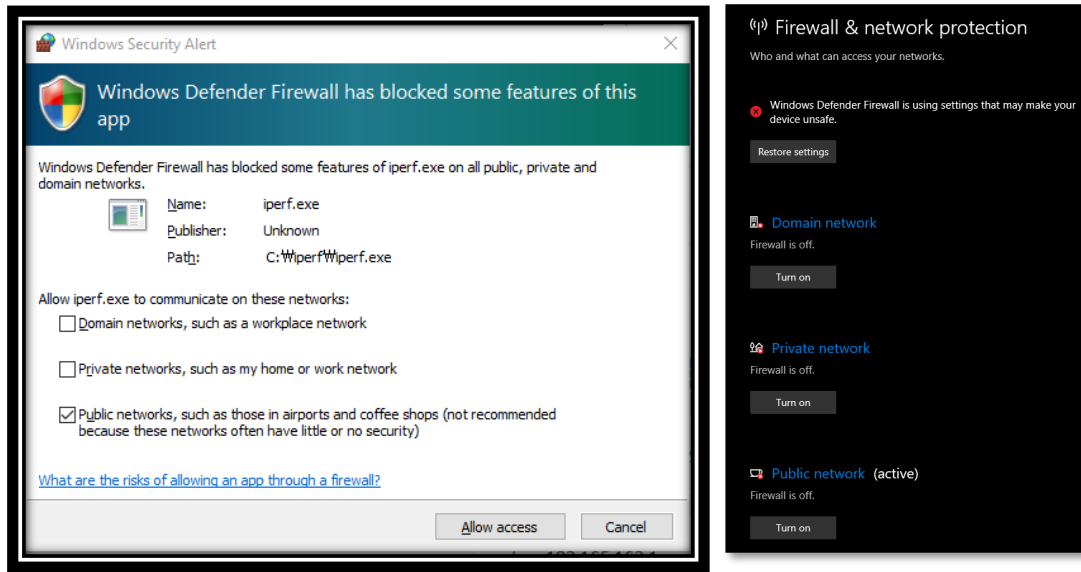

Figure 48. Disable firewall for iPerf test
- Renesas recommends to disable the laptop from all network firewalls before attempting a test as shown in Figure 48.